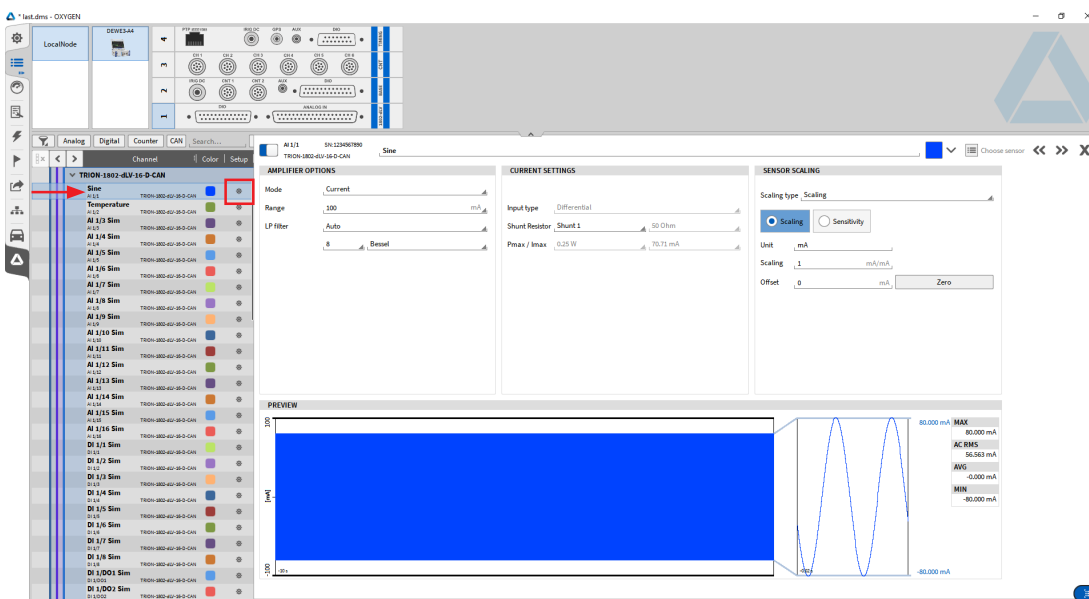

Fig. 15: Changing channel settings
2. Alternatively, the channel settings will also open by clicking on the gear button (see Fig. 15).